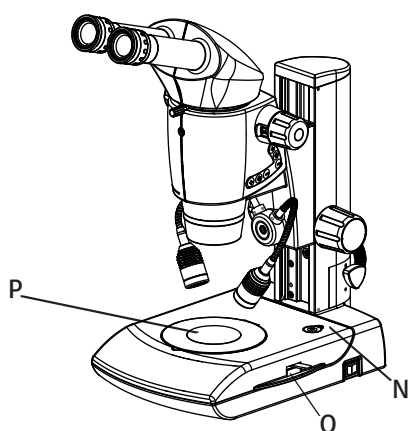

Fig.3
4. For illumination press On/Off button (N) on Dark field base. Refer figure 3.
5. Place the transparent specimen plate (P) on DF/BF base. Refer fig. 3.
6. Achieve Dark Field Illumination by push back the Lever (O). Pull the same lever (O) to front to achieve Bright field Illumination.